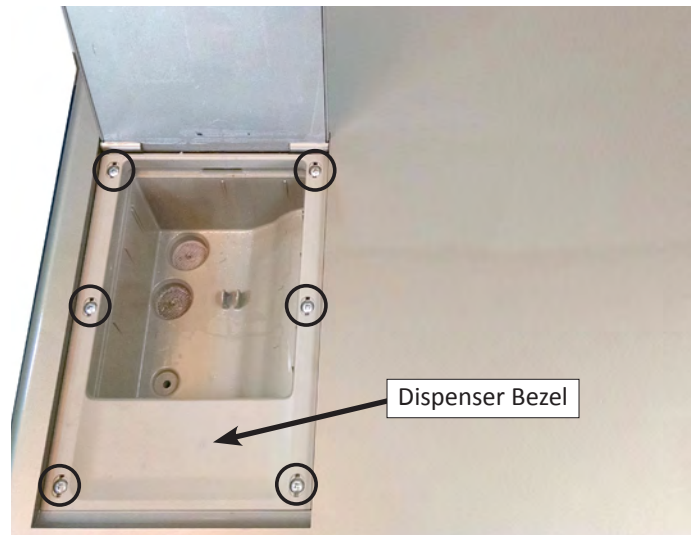

Figure 3
5. Next, remove the six screw covers surrounding the dispenser bezel and then remove the (6) Phillips screws (see Figure 3). Remove dispenser bezel.